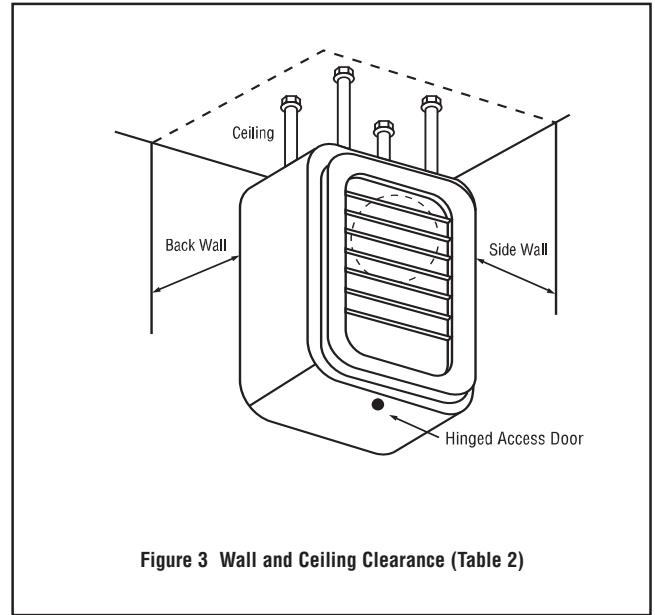

Figure 3 Wall and Ceiling Clearance (Table 2)
- Securely attach the four mounting rods to the ceiling. (Refer to Table 2 for wall and ceiling clearances, and Figure 3 for mounting spacing specifications).